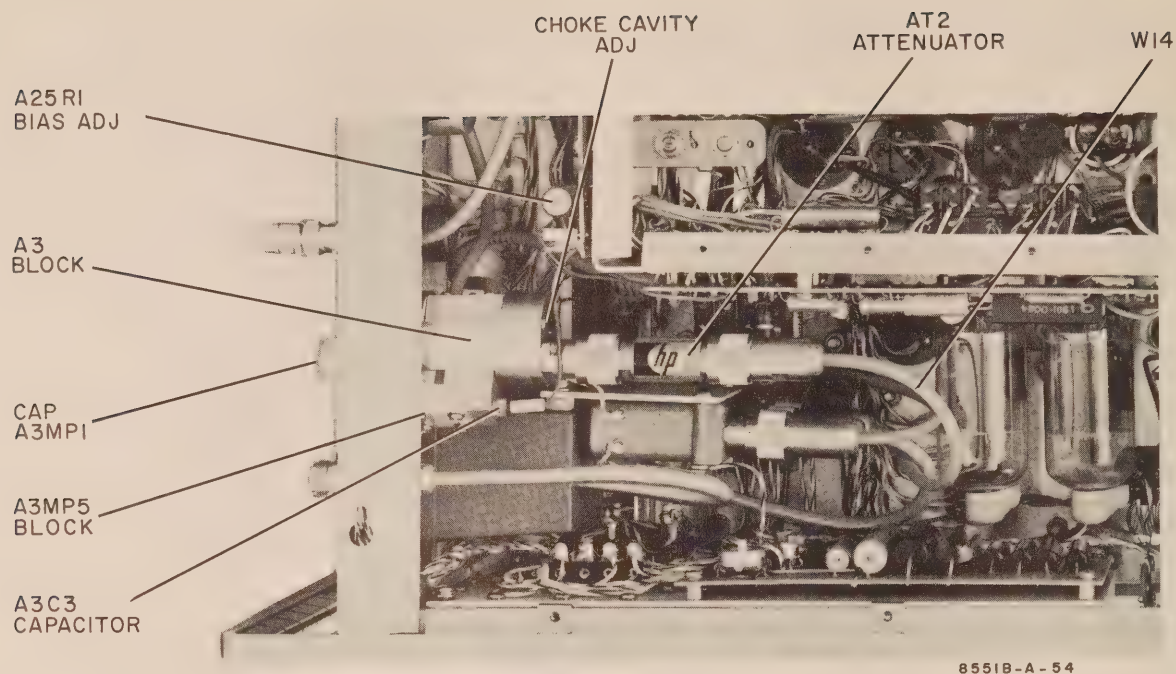

Figure 5-25. Arrangement of Coax Mixer A3
5-196. REPLACEMENT PROCEDURE (Figure 5-25).
- b. Disconnect bias generator lead at A3C3 (see Figure 5-25).